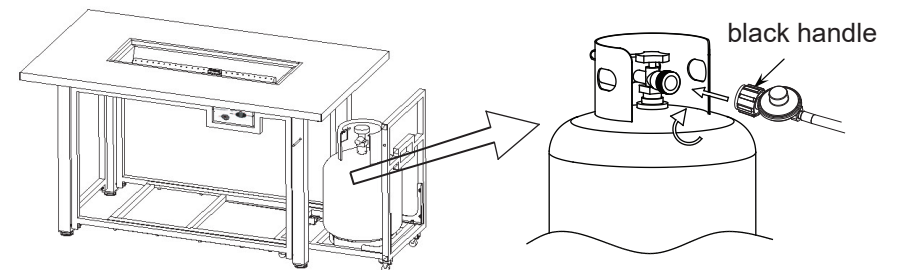

Figure 9
9. Open the door, place the gas cylinder into the Cart Base (J), connect the regulator, screw the black handle clockwise to tighten, turn the black handle counterclockwise to remove. The hose must point down. The knob on the control panel is turned all the way to the "OFF" position when the fire pit is NOT in use (see Figure 9).